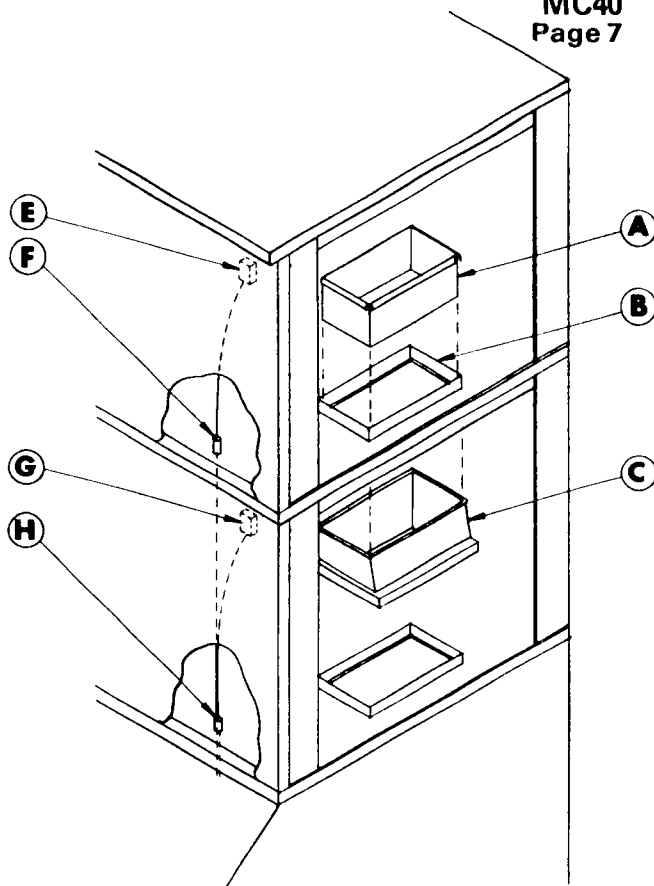

FIG. 2
3. Insert stainless steel (A) thru cube opening (B) in base of upper cuber. Place stacking kit cover (C) over sleeve as shown and push to top of sleeve. (See Fig. 2)